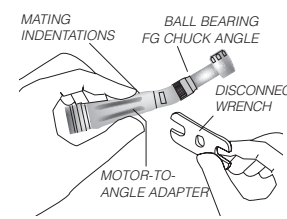

FIG.3
- Fit angle disconnect wrench, StarDental Part #203048, furnished with every angle, to mating indentations on angle neck; tighten securely. (Fig.3)